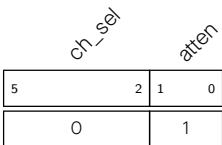

Figure 39.3-10. SAR ADC1 cmd1 Configuration
- Channel 0, with the attenuation of 2.5 dB. See Figure 39.3-10.